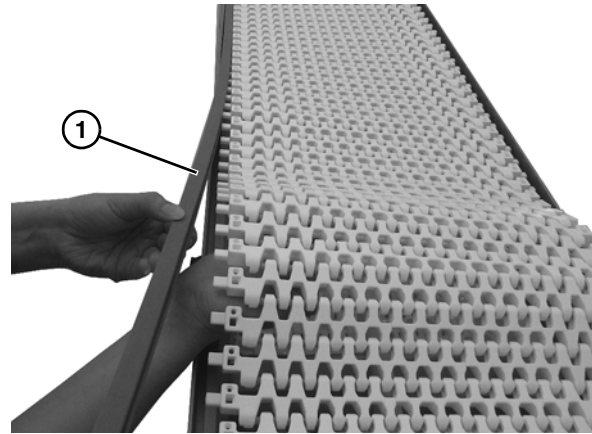

Figure 26
1. Lift belt off of frame and remove each edge strip (**Figure 26, item 1**) from side tabs of belt.